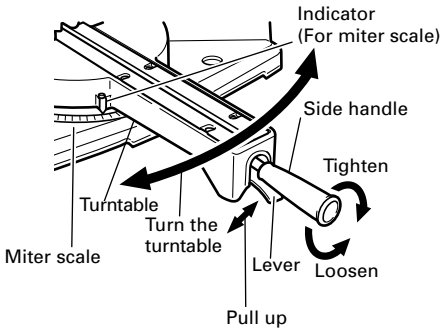
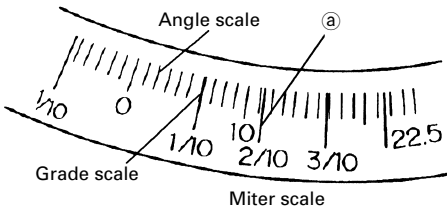

Fig. 33
Fig. 34
- (1) Loosen the side handle and pull up the lever for angle stoppers. Then, adjust the turntable until the indicator aligns with desired setting on the miter scale (Fig. 33).
- (2) Re-tighten the side handle to secure the turntable in the desired position.
- (3) The miter scale (Fig. 34) indicates both the cutting angle on the angle scale and the gradient on the grade scale.
- (4) The gradient, which is the ratio of the height to the base of the triangular section to be removed, may be used for setting the miter scale instead of the cutting angle, if desired (see Fig. 34).
- (5) Therefore, to cut a workpiece at a grade of $2/10$, set the indicator to position ② as indicated in Fig. 34.